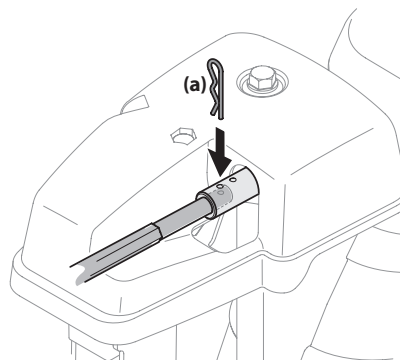

Figure 4-11
- Pull out chute control rod until hole in it lines up with second hole in chute rotation assembly. See Figure 4-11.